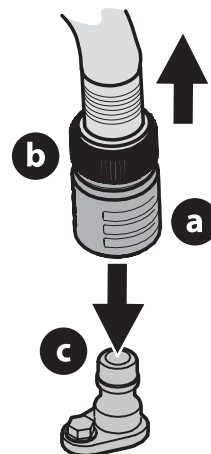

Figure 17
3. Pull back the lock collar (a) of the nozzle adapter (b) and push the nozzle adapter onto the deck wash nozzle (c). Release the lock collar to lock the nozzle adapter on the deck wash nozzle (Figure 17).